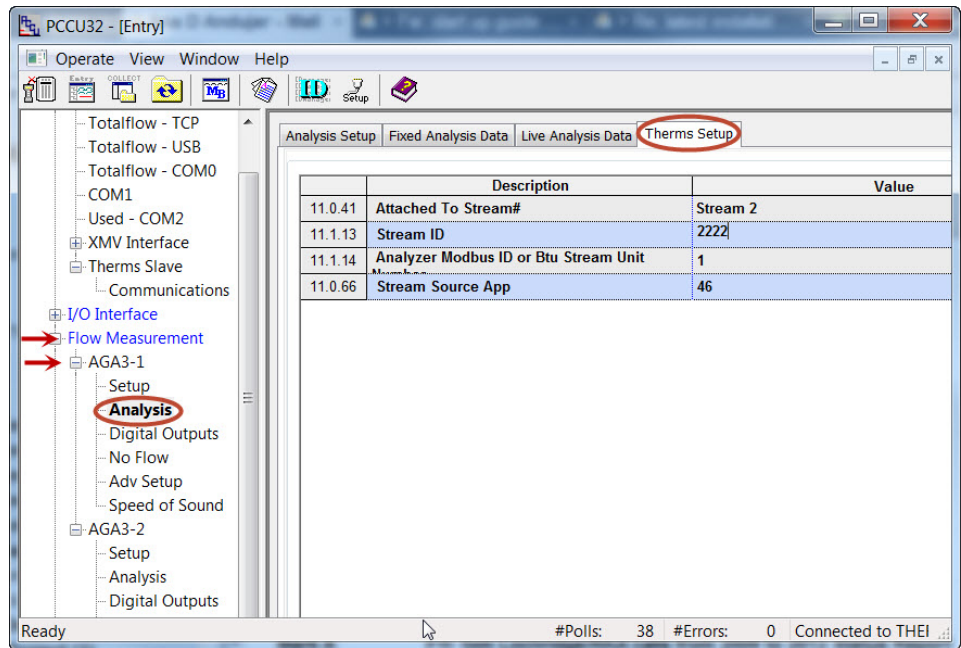

Figure 37. Verify Therms Slave Setup for tube 1
- 7) Click Re-read to verify parameters were saved correctly (see Figure 37).